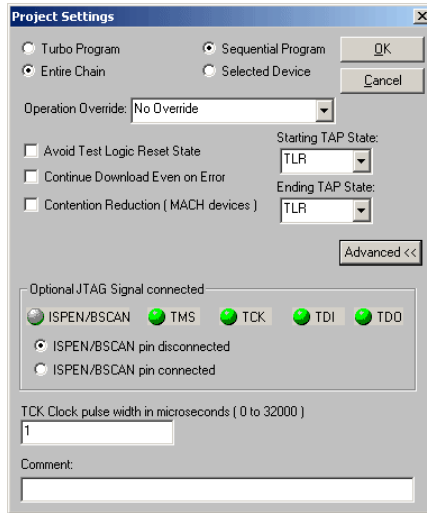

Figure 2-6. Project Setting Dialog
1. With a chain file open, choose **Project** ⇒ **Project Settings** to open the Project Setting dialog (Figure 2-6).